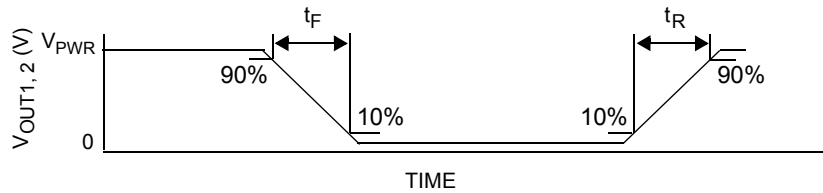

Figure 6. Output Switching Time
27. Rise Time is from the 10% to the 90% level and Fall Time is from the 90% to the 10% level of the output signal with $V_{PWR} = 14\text{ V}$, $R_{LOAD} = 3.0\text{ ohm}$. See Figure 6, page 11.